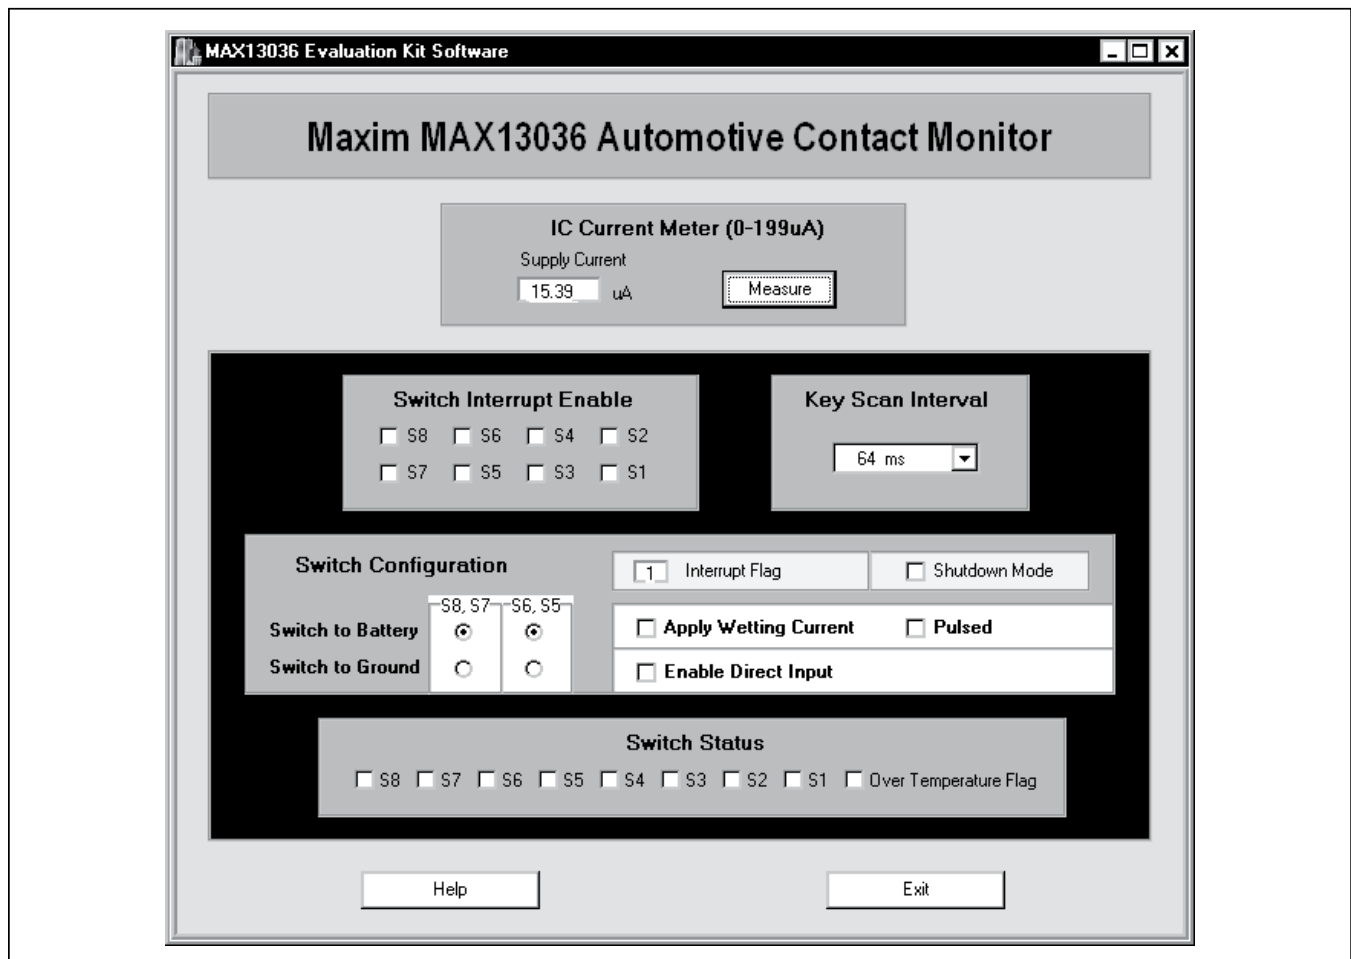

Figure 1. MAX13036 Evaluation Software Main Window
- 10) Start the MAX13036 EV kit software by opening its icon in the **Start** menu. The GUI main window appears, as shown in Figure 1.
To start the MAX13036 EV kit software, double-click the MAX13036 EV kit icon that is created during installation. The GUI main window appears, as shown in Figure 1.
By pressing the **Measure** button on the **IC Current Meter (0-199 μ A)** panel shown in Figure 1, the operating current of the MAX13036 will be displayed. The measuring range of this meter is from 0 to 199 μ A. The **Measure** button will be grayed out (disabled) if the **Apply Wetting Current** checkbox on the **Switch Configuration** panel has been checked.